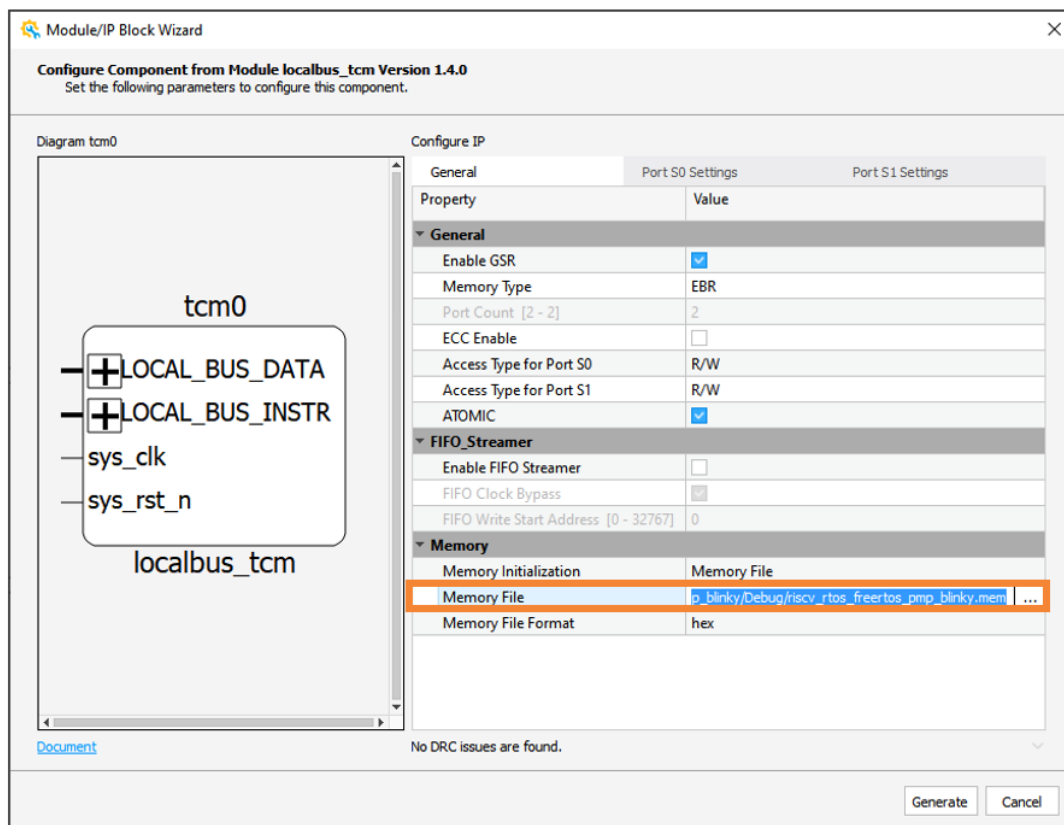

Figure E.1. Setting Memory Initialization File
2. Set the Memory Initialization file (Figure E.1). Use the C project memory file. Refer to Appendix A for instructions on how to create memory files.